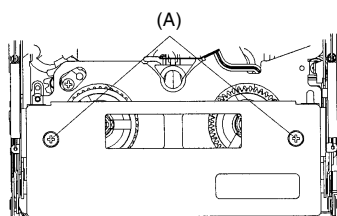

Fig.1
- (1) Apply 3 to 4V DC to the loading motor to establish the standby mode. When removing the cover from the cassette controller, remove the tow screws (A). (See Fig.1.)